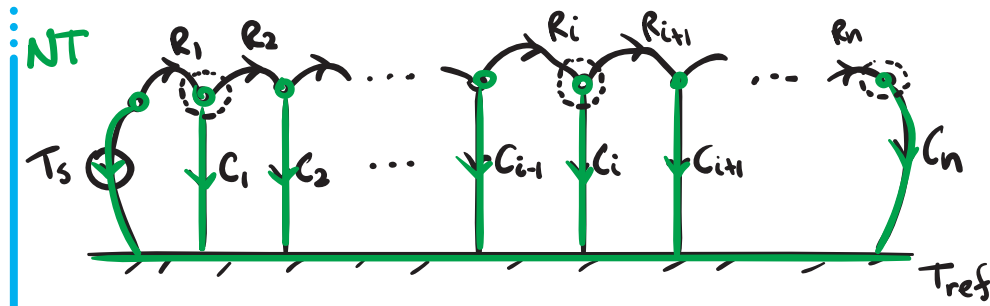

Figure fem.2: a linear graph of the insulated bar.
- The linear graph model is shown in Fig. fem.2 with the corresponding normal tree overlaid.